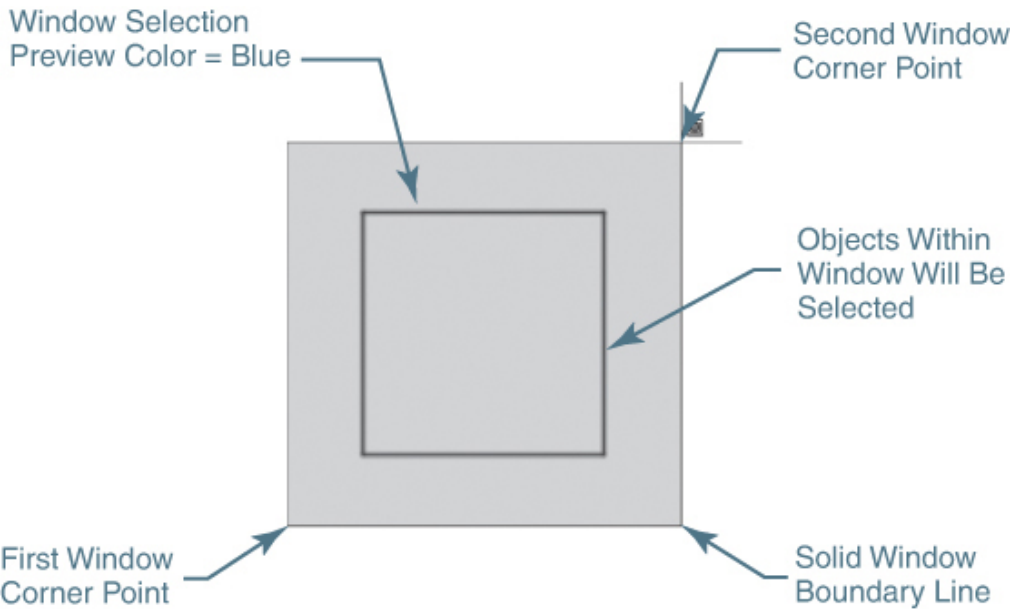
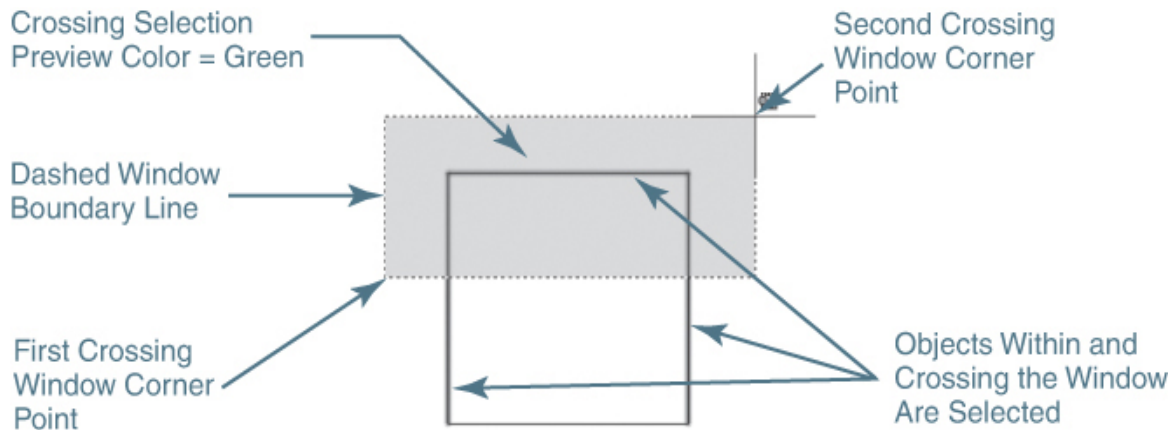

Figure 7-7
Figure 7-9
The **Window** option allows you to define a rectangular window selection area by prompting you to pick two corner points as shown in Figure 7-7.
- 4 Create a window selection similar to the one shown in Figure 7-7, and press **<Enter>** twice. The four lines of the square are erased.
The **Crossing** option allows you to define a rectangular window selection area by picking two corner points similar to the **Window** option, as shown in Figure 7-9.
To distinguish between the **Window** option and the **Crossing** option, the **Crossing** option window boundary is dashed (see Figure 7-9), whereas the **Window** option window boundary is solid (see Figure 7-7). In addition, the **Crossing** option windowed area is, by default, shaded a semitransparent green color (see Figure 7-9) instead of the default blue color used with the **Window** option (see Figure 7-7).
- 4 Create a crossing selection similar to the one shown in Figure 7-9 and press **<Enter>** twice. The top horizontal line and the two vertical lines of the square are erased. The bottom horizontal line remains in the drawing.
This is where it gets interesting. If you move your cursor to the *right* of the first pick point, you initiate the **Window** option—the window boundary outline is solid, and the default shade color is blue (see Figure 7-7).
If you move your cursor to the *left* of the first pick point, you initiate the **Crossing** option—the window boundary outline is dashed, and the default shade color is green (see Figure 7-9).
- 4 Release the mouse button, and move the cursor up to the right of the square so that an implied window similar to the window selection shown in Figure 7-7 is created, and pick a point.
- 9** Release the mouse button and move the cursor down and to the left of the square so that an implied window similar to the crossing selection shown in Figure 7-9 is created, and pick a point.